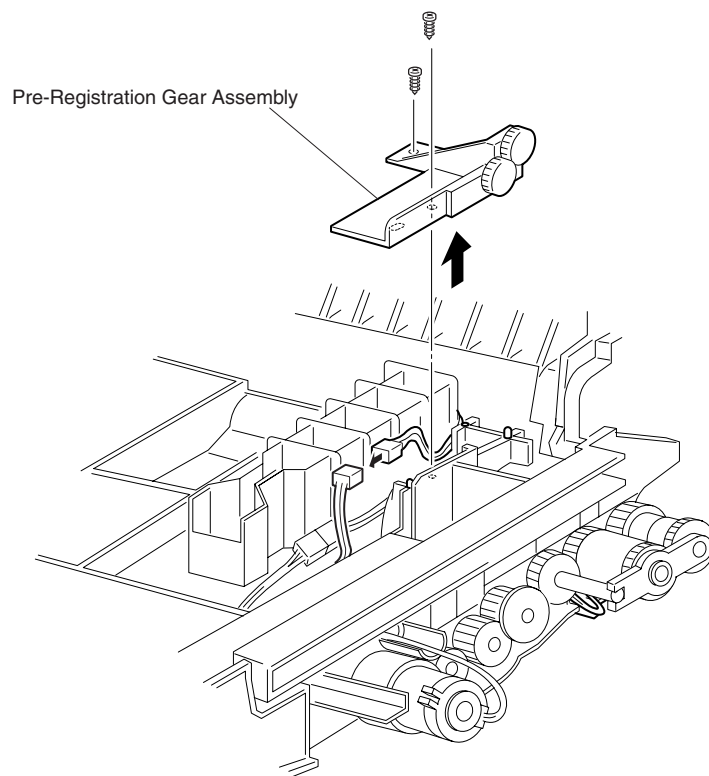

Figure 2
4. Remove the two screws securing the Pre-Registration Gear Assembly to the Main Paper Handling Assembly and remove the Gear Assembly (Figure 2).